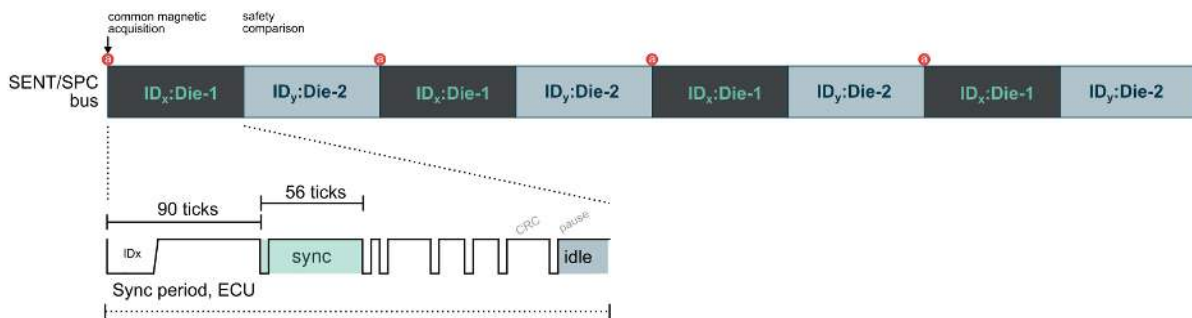

Figure 27 - Acquire Data during one SPC ID on all ICs on the same bus. Buffer and send when SPC ID matches.
- All IC's on the bus acquire the data when a specific SPC ID is sent. Each IC buffers and transmits when called upon, see Figure 27.